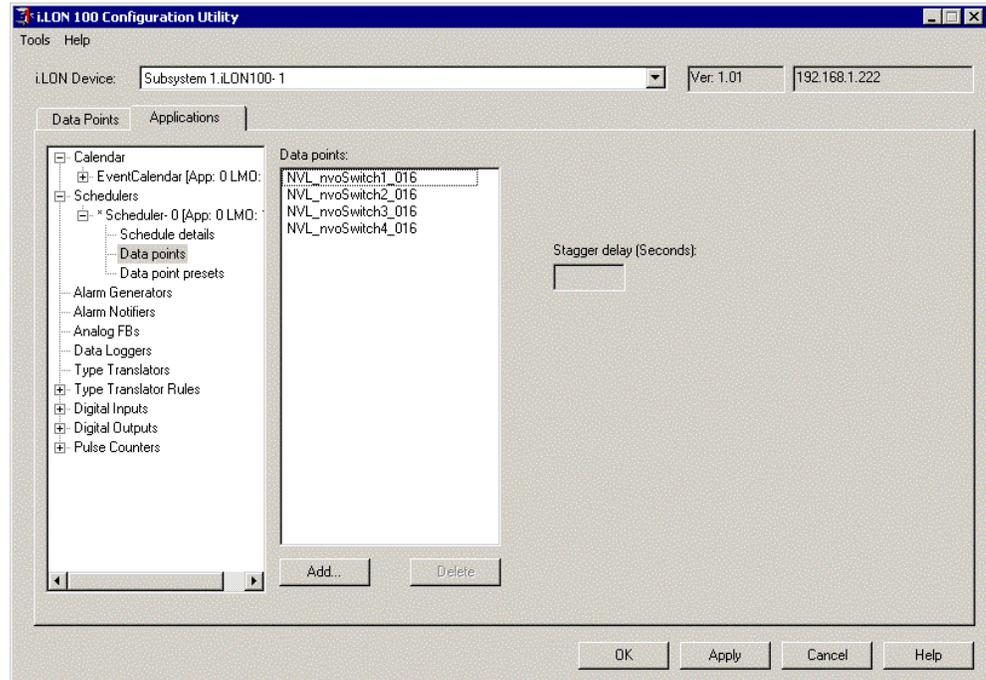

Figure 5.4 Data Point Dialog
4. Open the **Applications** tab, and select **Data Points** beneath the **Scheduler** functional block you created in the previous step. The **Data Points** dialog appears, as shown in Figure 5.4.